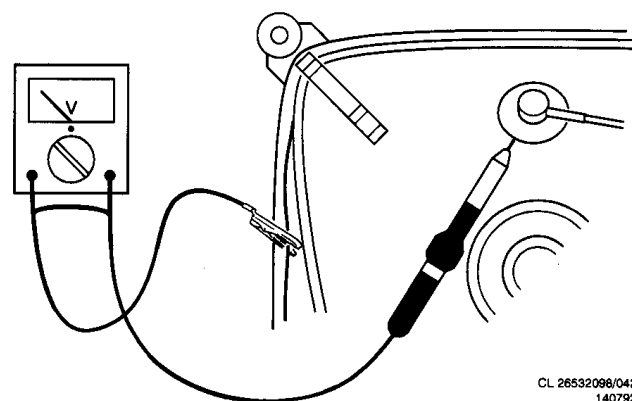

Fig. 3.1
1. In order to prevent damage to ICs and transistors, all high-voltage flashovers must be avoided. In order to prevent damage to the picture tube, the method shown in Fig. 3.1 should be used to discharge the picture tube. Use a high-voltage probe and a multimeter (position DC-V). Discharge until the meter reading is 0V (after approx. 30s).